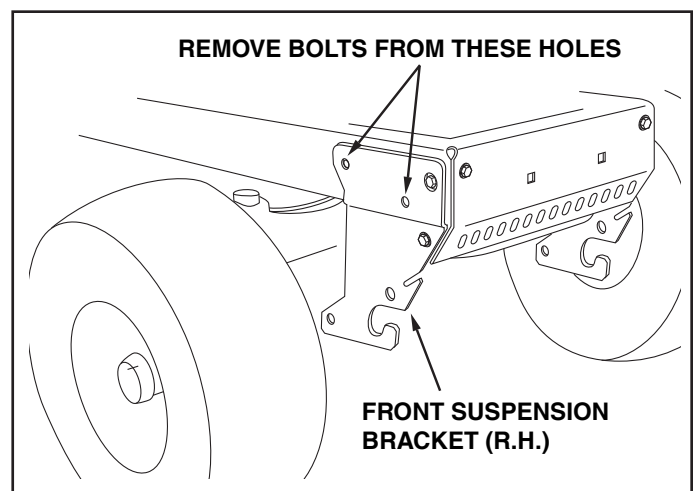

FIGURE 9
16. Remove the lower front hex bolt from the R.H. front suspension bracket. See figure 9.
17. Remove the hex bolt from the hole at the rear of R.H. front suspension bracket. See figure 9.